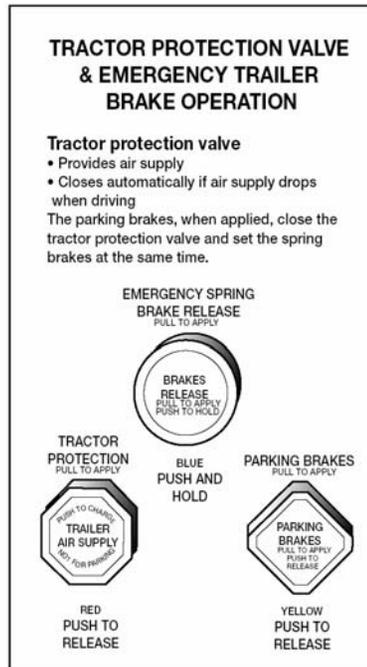

FIGURE 5.3
**Dual Parking Control Valves.** When main air pressure is lost, the spring brakes come on. Some vehicles, such as buses, have a separate air tank, which can be used to release the spring brakes. This is so you can move the vehicle in an emergency. One of the valves is a push-pull type and is used to put on the spring brakes for parking. The other valve is spring loaded in the "out" position. When you push the control in, air from the separate air tank releases the spring brakes so you can move. When you release the button, the spring brakes come on again. There is only enough air in the separate tank to do this a few times. Therefore, plan carefully when moving. Otherwise, you may be stopped in a dangerous location when the separate air supply runs out. See Figure 5.3.